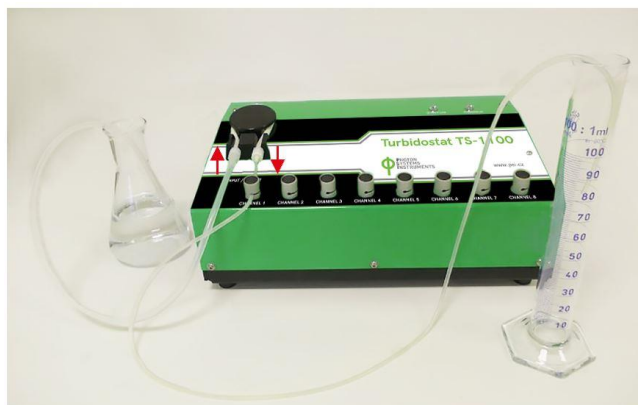

Fig. 6 Set up of Turbidostat module for calibration.
- Set up the Turbidostat module for the calibration as is shown in Fig. 6 (see more instructions in chapter 7 of this manual).